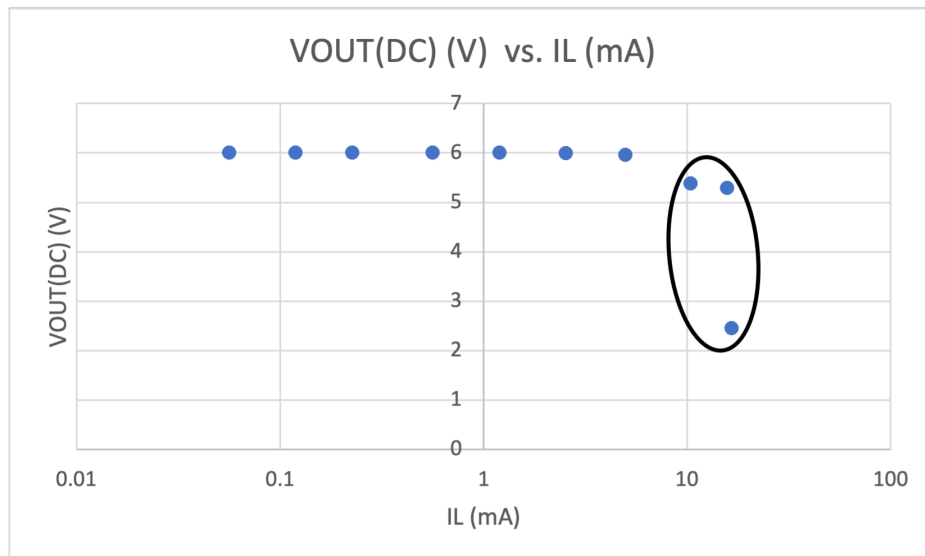

Figure 4: VOUT(DC) vs. IL graph with IL scaled logarithmically and the region where voltage regulator is not effectively held circled
The requested VOUT(DC) vs. IL graph with IL scaled logarithmically and the region where voltage regulator is not effectively held circled can be seen below in figure 4 below.